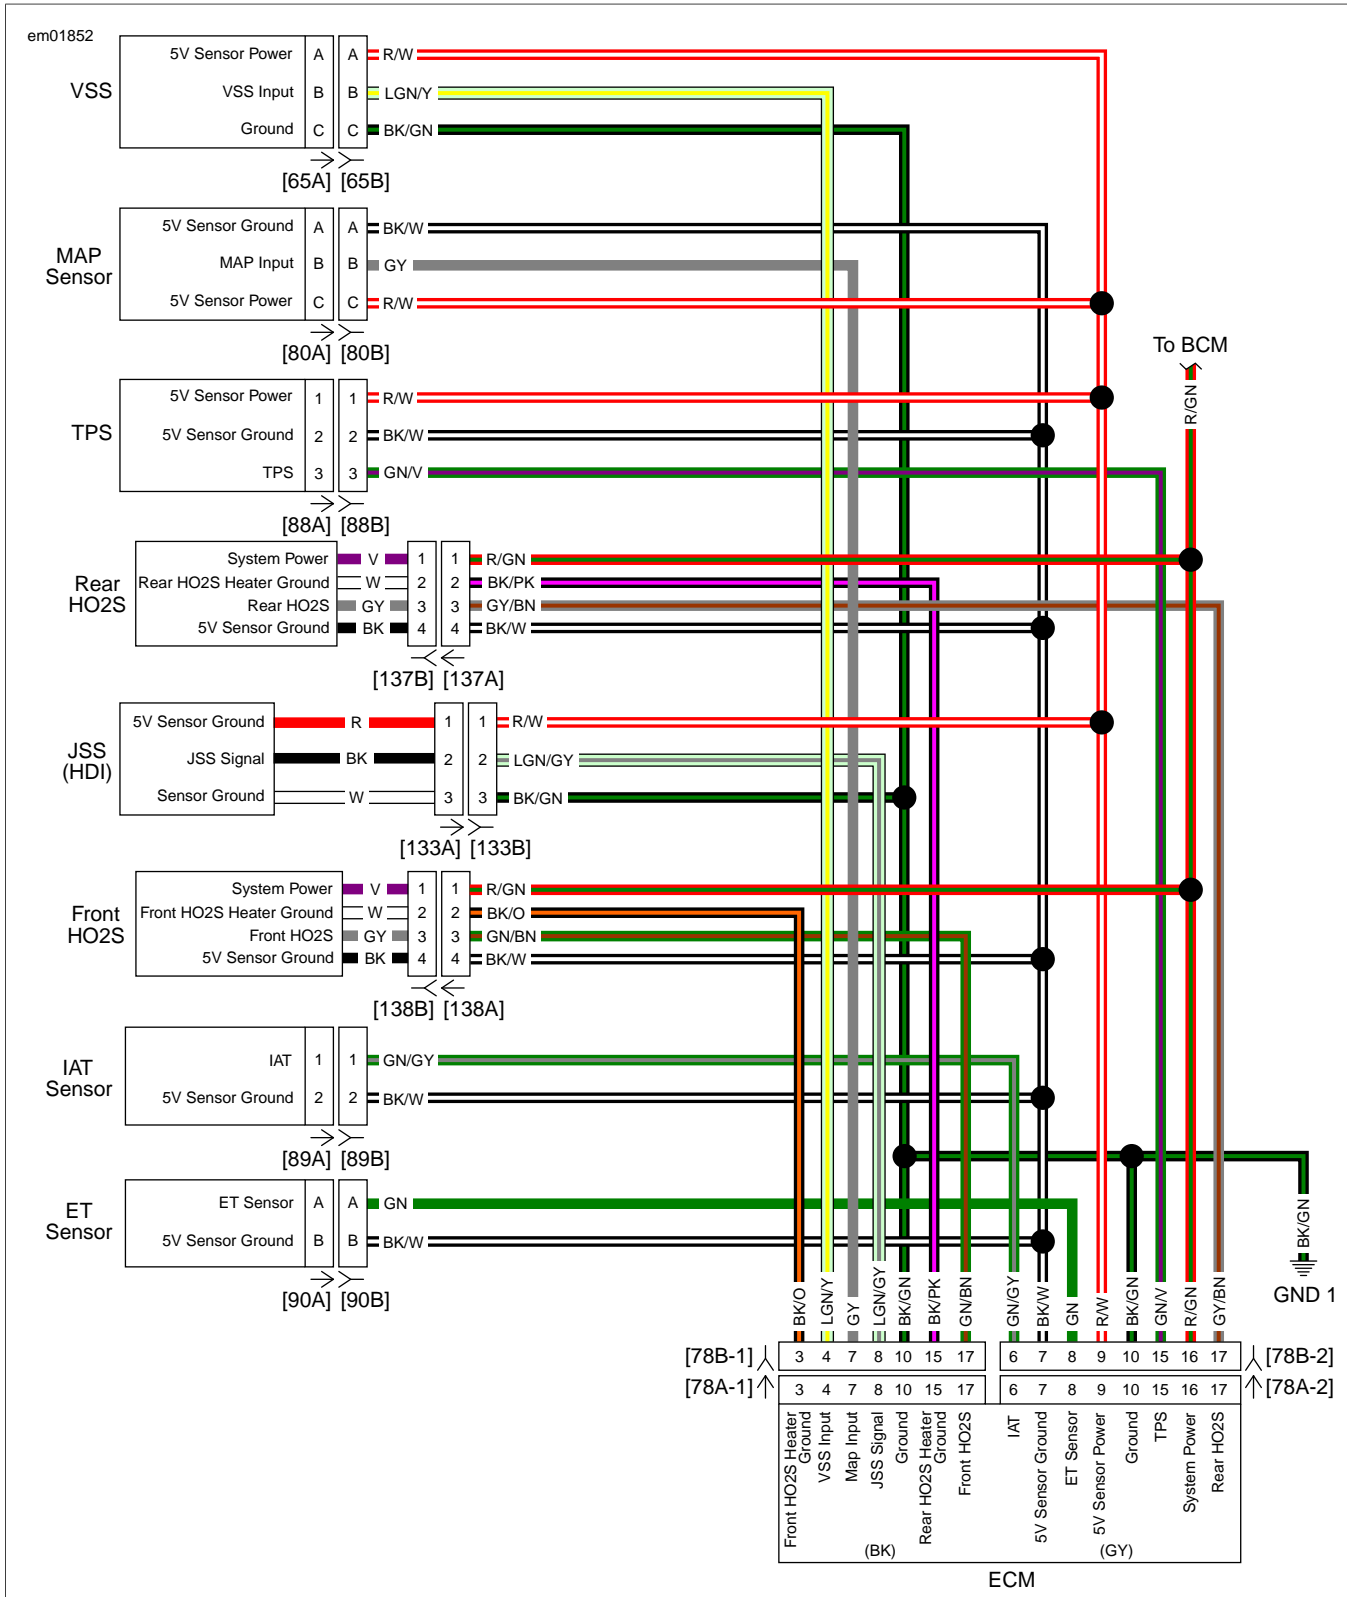

Figure 6-11. Sensor Circuit
- See Figure 6-11 for common 5V sensor power and ground interconnections.